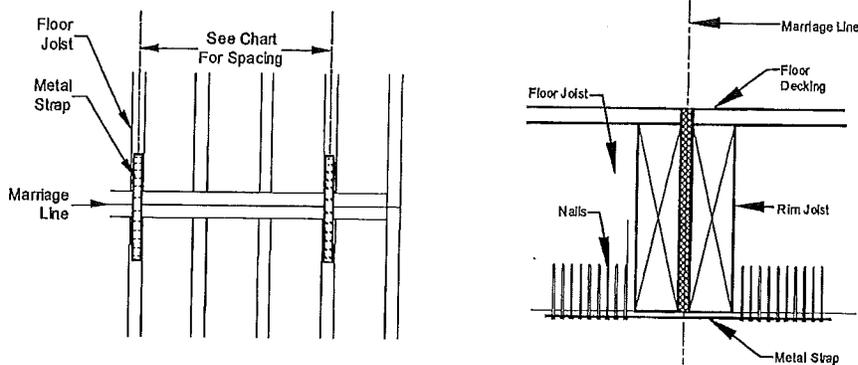

Figure 31. Metal strapping for Wind Zones II and III
- Optional - In Wind Zones II and III, fasten metal straps of minimum 26 gauge, 1-1/2" wide galvanized steel spaced per Table 14 and fastened per Table 15 to the underside of the floor joists (Figure 31). Select a strap length sufficient to hold the required fasteners.